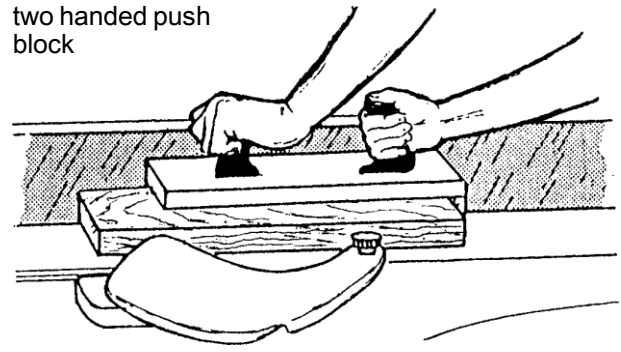
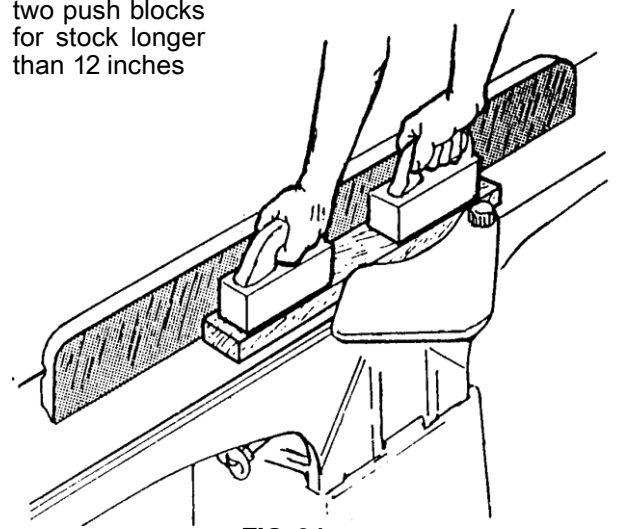
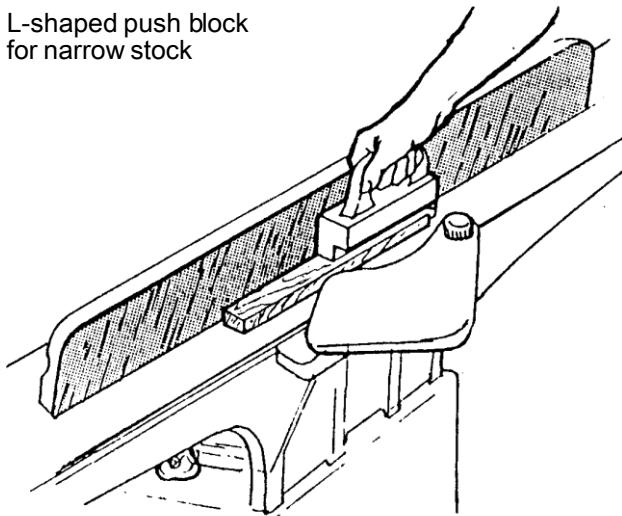
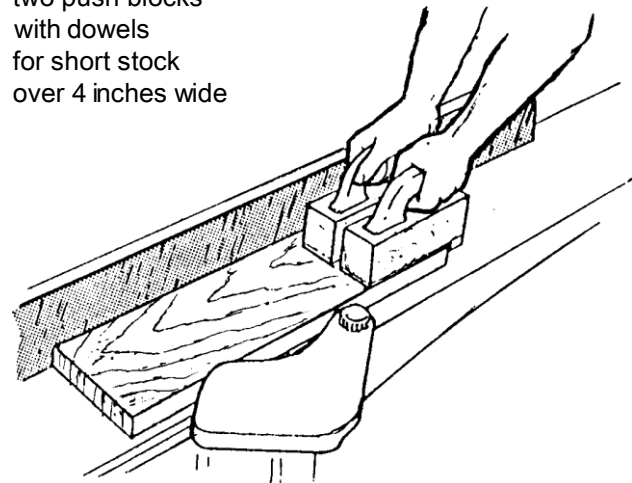

FIG. 23
FIG. 24
FIG. 25
FIG. 26
Never surface pieces shorter than 12 inches or thinner than 3/8 inch without the use of a special work holding fixture. Never surface pieces thinner than 3 inches without the use of a push block. On stock 8" to 12" long use a single two-handed push block (Fig. 23). On stock longer than 12 inches use two push blocks (Fig. 24). With narrow stock use the type push block shown in Fig. 25. When surfacing short stock over 4 inches wide, use two (2) push blocks to guide material over cutterhead (Fig. 26).